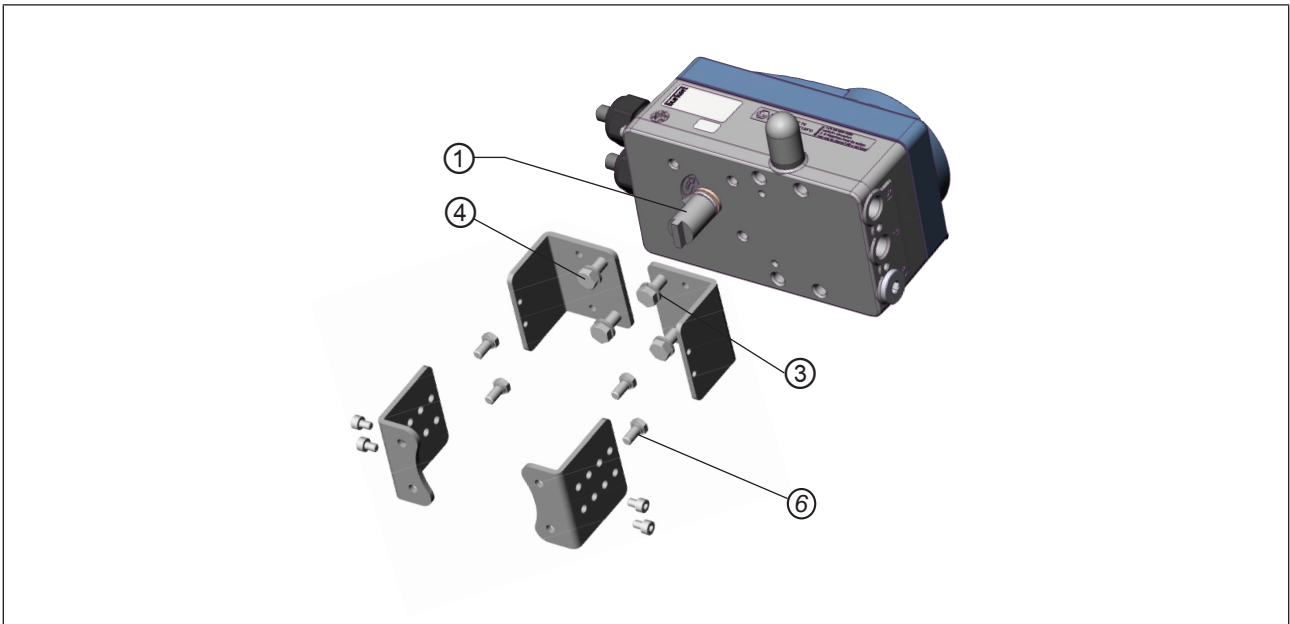

Fig. 29: Attaching assembly bridge (schematic representation)
- Attach the assembly bridge to the positioner using four hexagon bolts ③ and spring lock washers ④ (see “Fig. 29”).